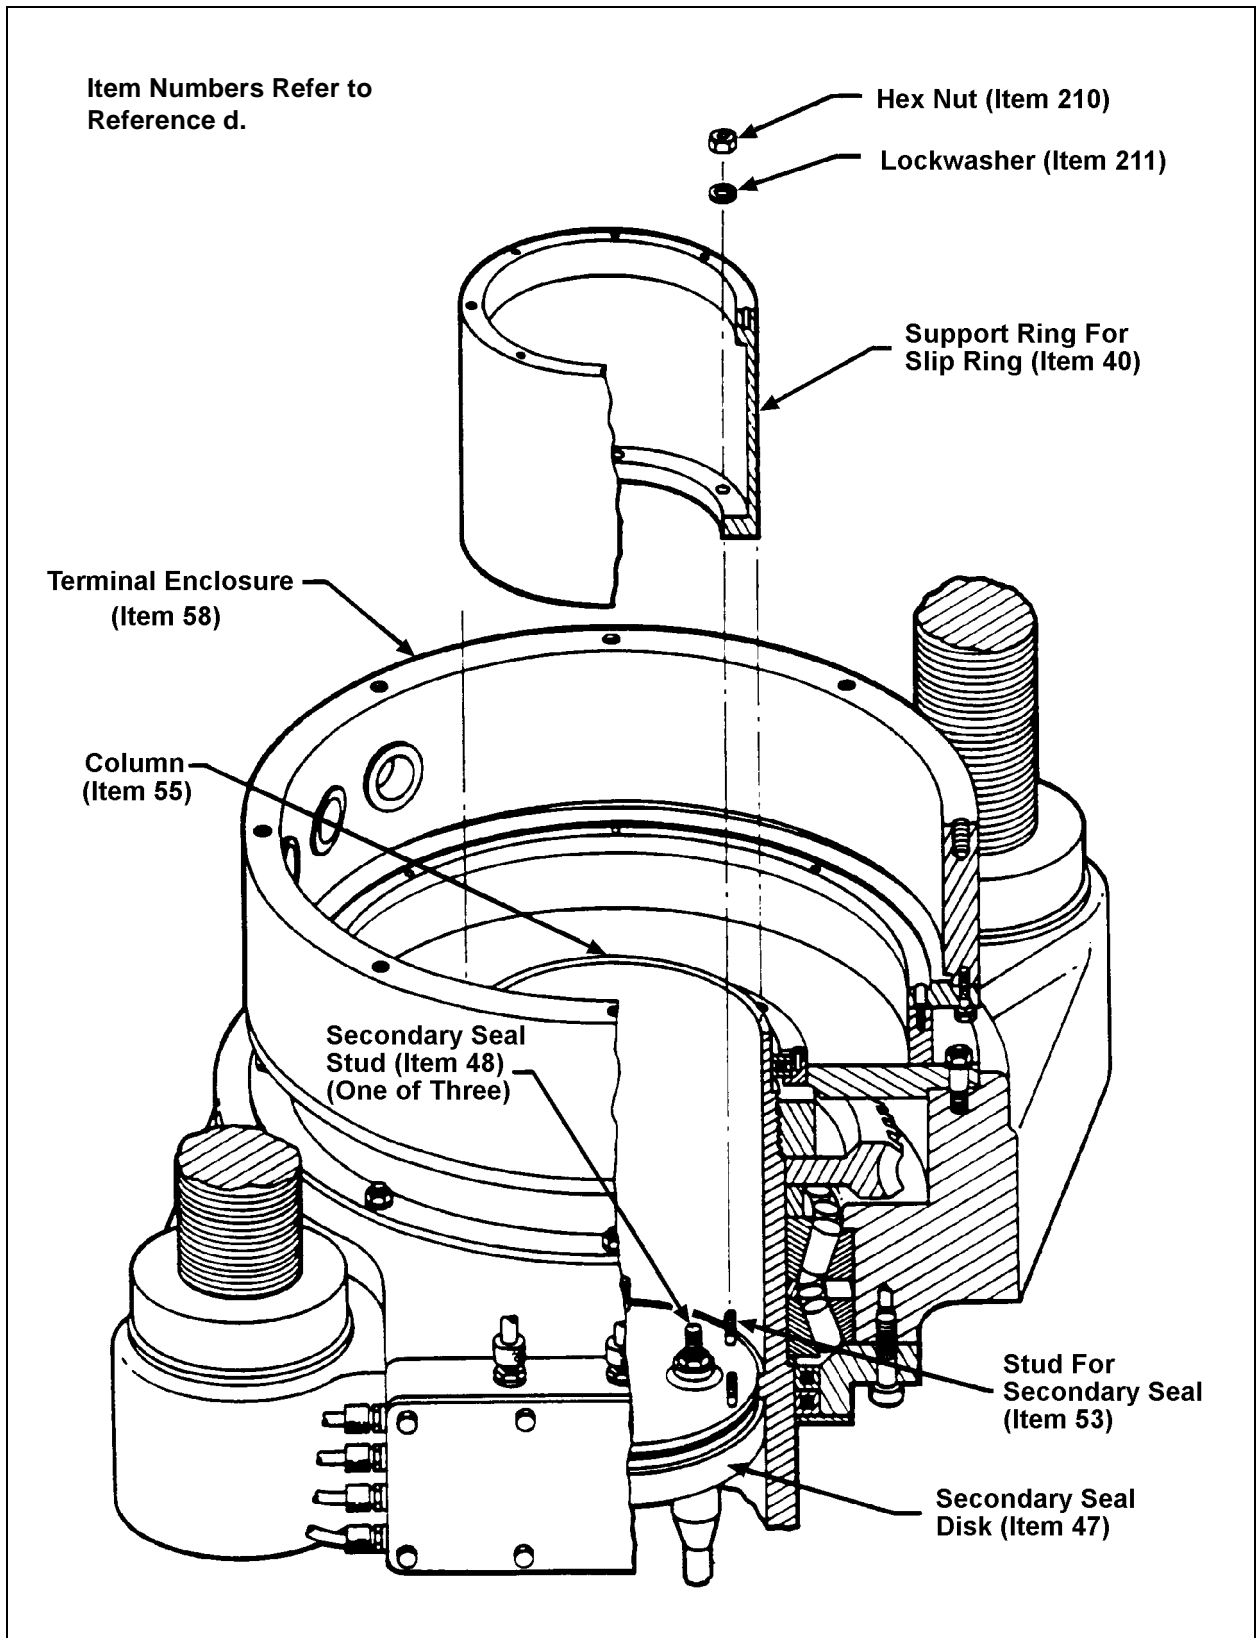

Figure 4-3. Training and Retracting Device with Brush and Slip Ring Assemblies Removed.
to or greater than 3 megohms. FFG 7 Class Advisory No. 02-97 revised MRC 13-4NMB-N to require a minimum of 10 Megohms insulation resistance in each phase of the APU motor 440 VAC circuit. 10 Megohms should be achievable, but 3 Megohms is an acceptable minimum because of possible moisture entrapment from waterborne cable replacement. If the electrical insulation resistance is less than 3 megohms, Ship's Force must disassemble the brush and slip ring assemblies from the training and retracting device to expose the secondary seal assembly, as shown in Figure 4-3. To disassemble the training and retracting device:
- c. Once the slip ring assembly is loose, modify the procedure of reference a, paragraph 6-5.9.2 by removing the entire slip ring mounting plate with attached cables as a unit. Leave the nine (9) electrical cables attached to the bottom of the slip ring mounting plate and disconnect the three (3) lead terminals (item 46 of reference d) from the three (3) secondary seal studs (item 48 of reference d) at the secondary seal disk (item 47 of reference d, see Figure 4-3). It is often necessary to rotate the slip ring mounting plate to untwist the electrical cables and gain access to the three lead terminals.
**4-1.5.1.1** Once the brush and slip ring assemblies are removed and access to the three (3) secondary seal studs is obtained, megger check each phase at the secondary seal studs. If the corrected electrical insulation resistance readings are equal to or greater